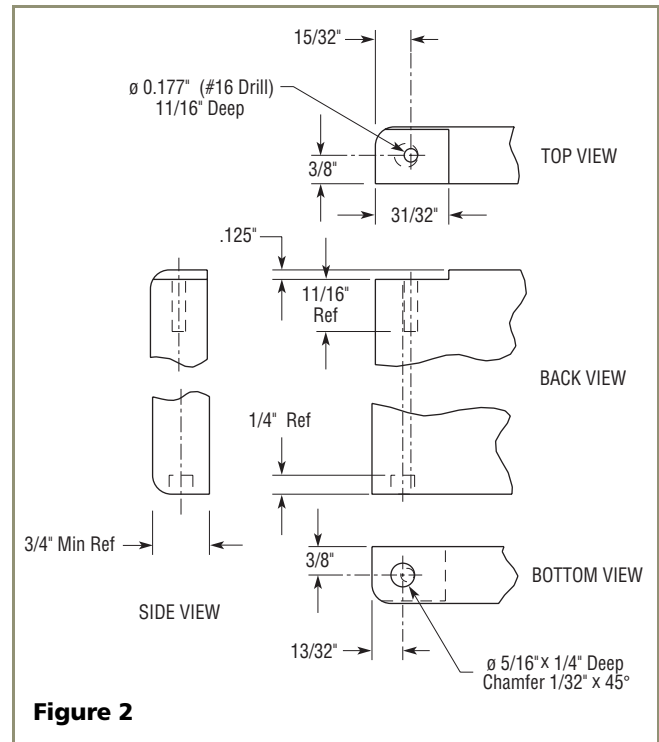

**Figure 1**
1. Cut the overlay to the following dimensions (see **Figure 1**).
2. Create a relief (**Figure 1**) for pivot plate by cutting notch in top corner of overlay panel. Refer to **Figure 2** for exact specifications.